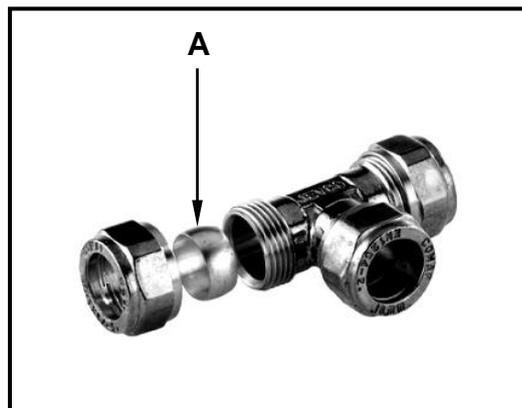

FIGURE 6.3
- 6.3 FIGURE 6.3 below shows a compression joint used to join copper pipes.